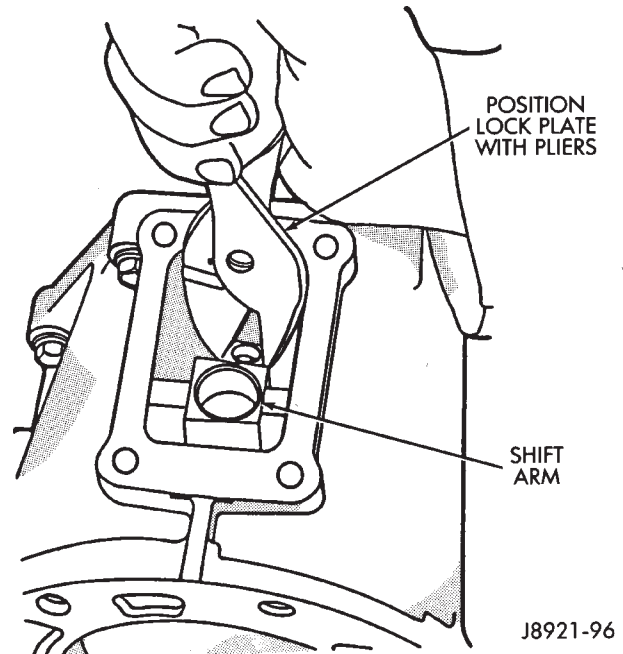

Fig. 96 Shift Arm Lock Plate Installation
(8) Install shift arm lock plate with pliers (Fig. 96). Then install and tighten lock plate set bolt to 38 N·m (28 ft. lbs.) torque.